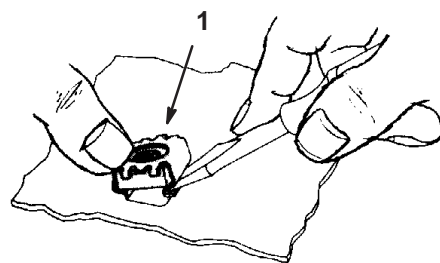

Figure 6
- Install one retaining leg into the the square opening of mounting brackets (Fig. 6).
- Push a screw driver into the other leg and insert retaining nut into square hole (Fig. 6).